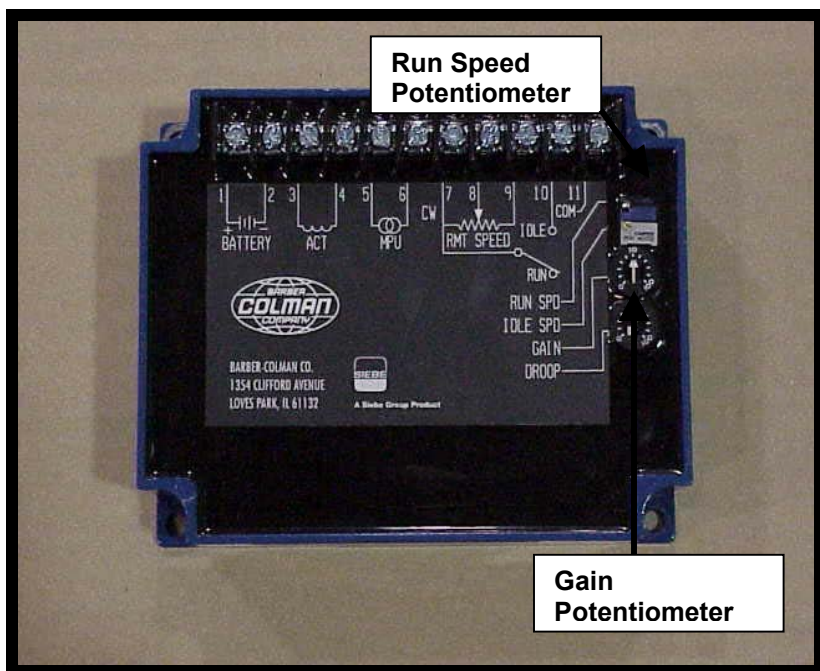

Figure 1
- 4) Adjust the Run Speed (High Speed) potentiometer until the engine is at normal operating speed (1500 RPM / 1800 RPM). To adjust the operating speed, turn clockwise to increase and counter clockwise to decrease the speed. **See Figure 1** (Located on right hand side of unit, when facing the Main Control Panel, inside Generator Compartment).
- 5) If the engine speed is unstable, reduce the Gain adjustment slowly turning counter-clockwise until the engine stabilizes. **See Figure 1** (Located on right hand side of unit, when facing the Main Control Panel, inside Generator Compartment).